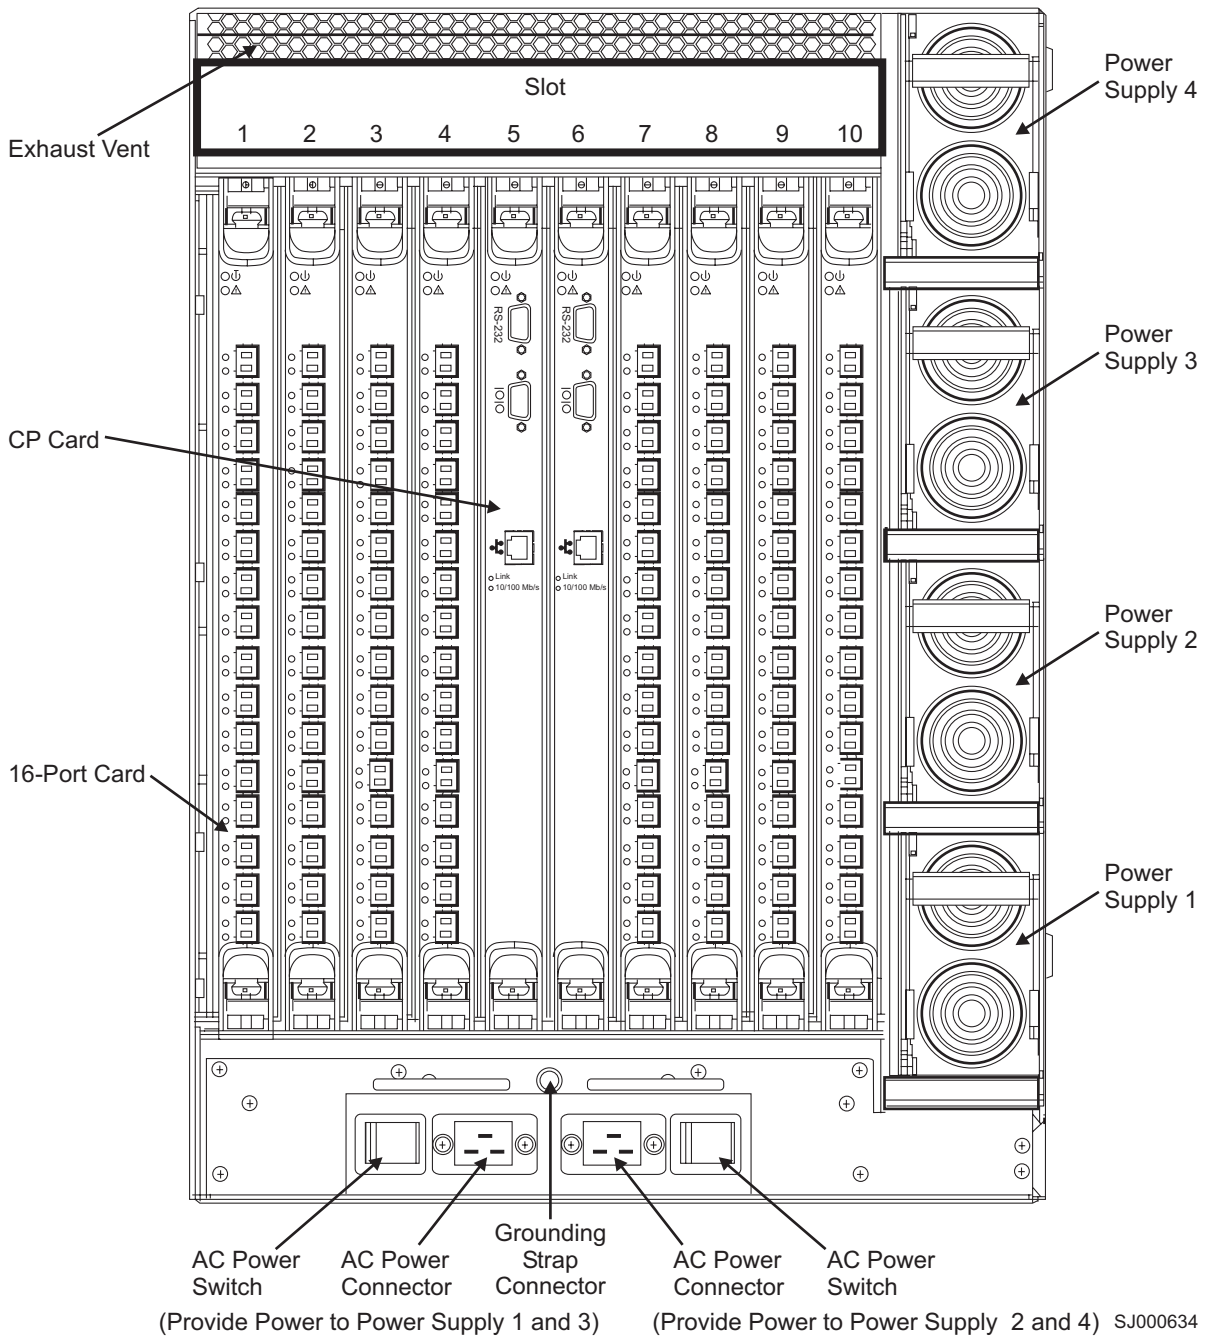

Figure 39. Location of the power supplies
2. Remove the power supply or filler panel from the chassis. See Figure 39 on page 76 for the location of the power supply.